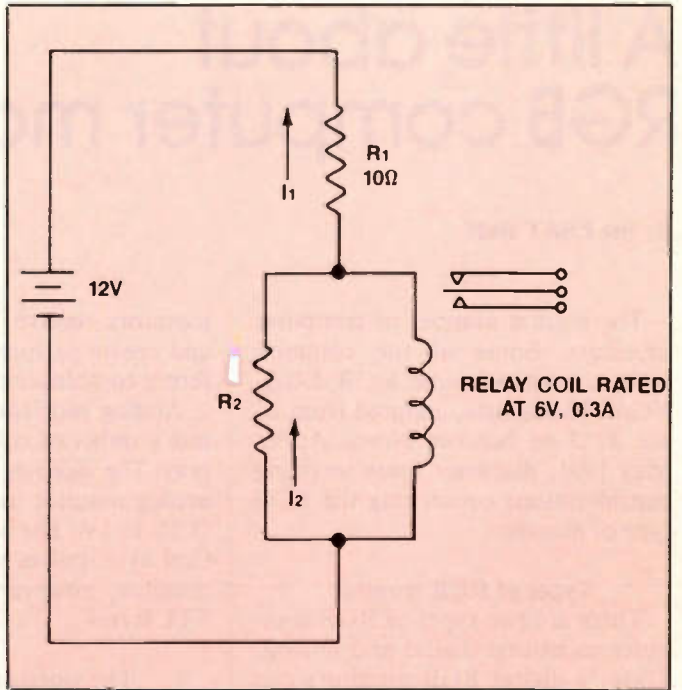

Figure 4.
6. Find the value of R_2 in the circuit of Figure 4.